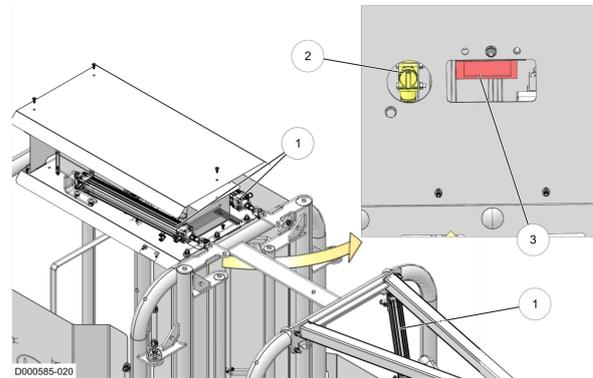

Figure 9. Control unit
There is no air pressure.	Open the main pressurized air supply (2) (see figure 9 on page 6-3) to the Grazeway.